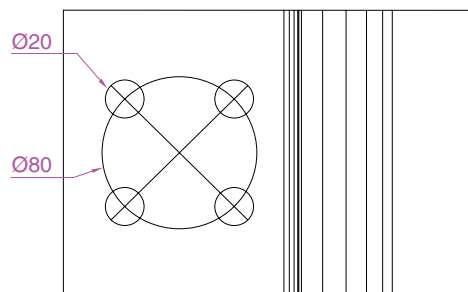

Fig. 17.26 Second example – 2D outlines in 3D space – the circles in the new UCS face
Second example – 2D outlines in 3D space (Fig. 17.26)
4. Click the **Face UCS** tool icon in the UCS toolbar (Fig. 17.25) and place the 3D model in the ucs plane shown in Fig. 17.26, selecting the sloping face of the extrusion for the plane and again **Zoom** to 1.
5. With the **Circle** tool draw five circles as shown in Fig. 17.26.